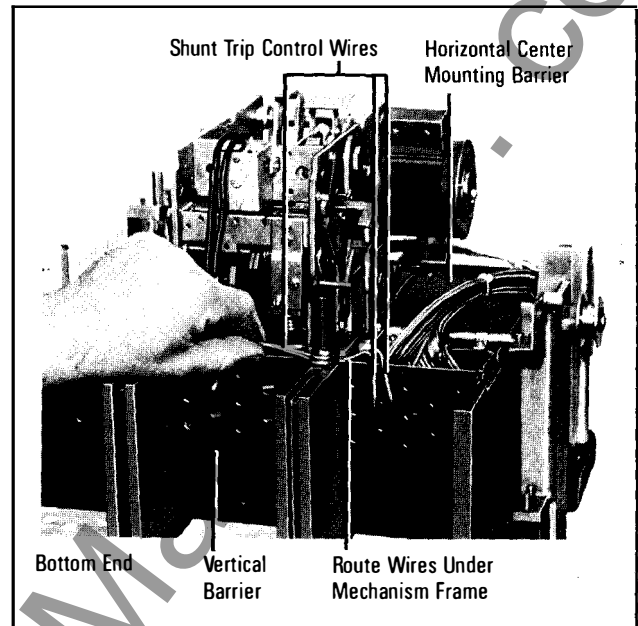
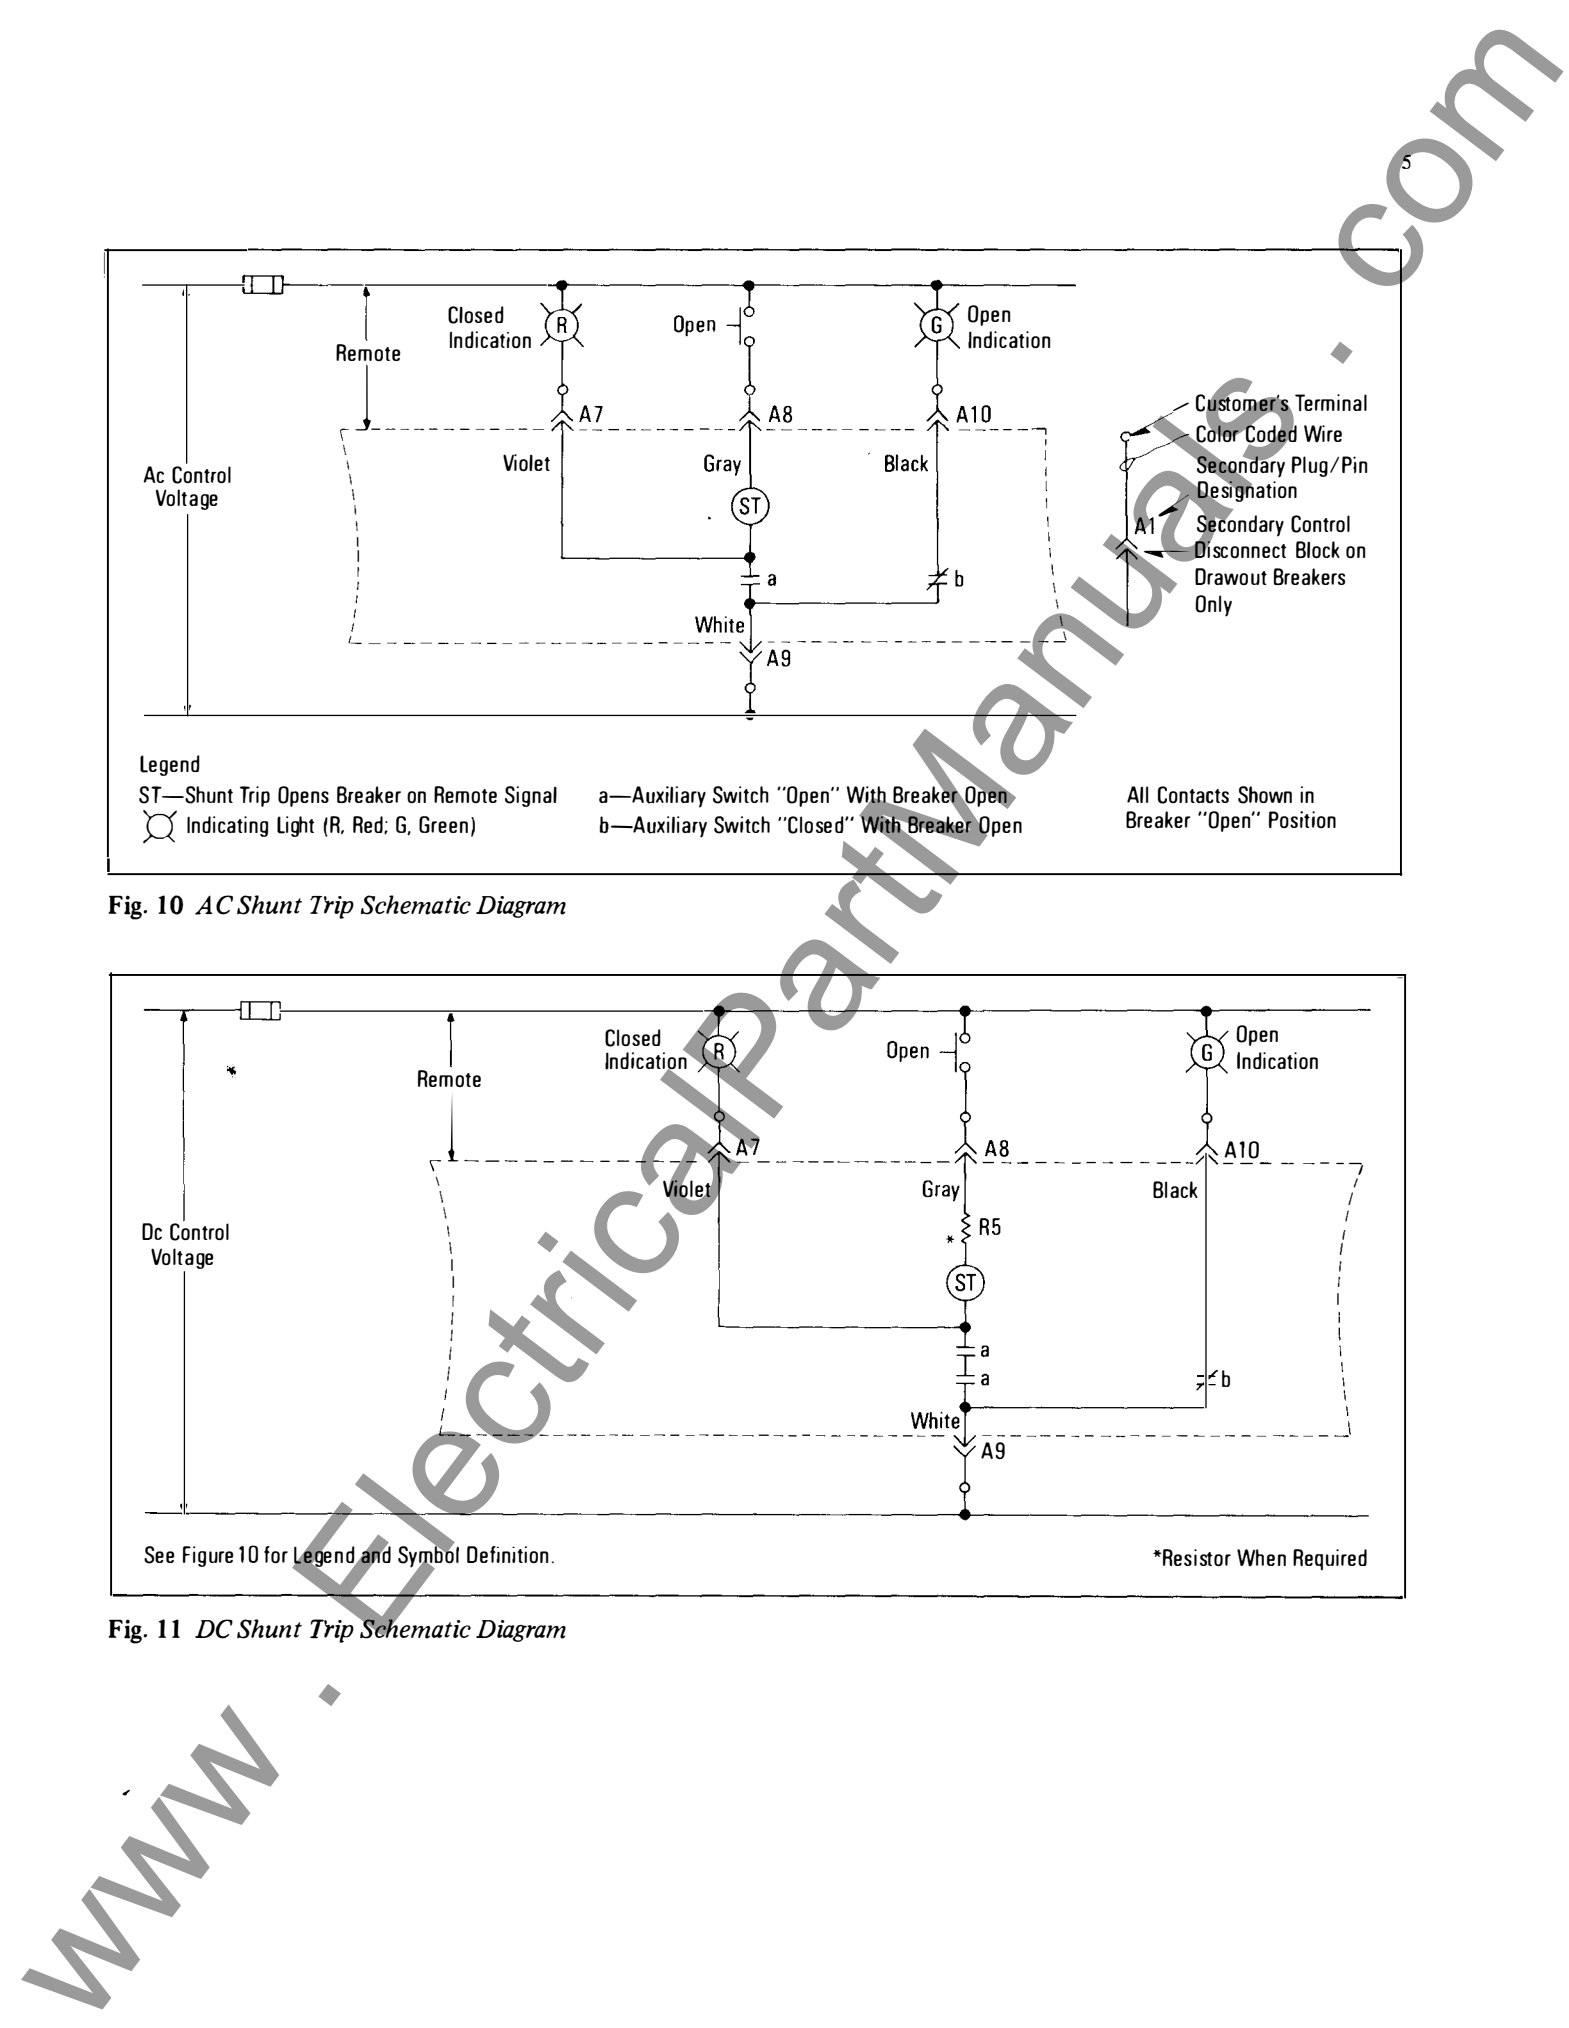

Fig. 5 *Routing Location for Shunt Trip Control Wires*
Fig. 11 *DC Shunt Trip Schematic Diagram*
4. Route the two shunt trip control wires under the mechanism mounting frame as illustrated in Fig. 5. This routing is required in frame ratings 1600^② amp and less because of the closeness of the front cover, but an alternate path around the bottom end of the mechanism frame may be used in the large frame breakers.
An AC shunt trip schematic diagram is provided in Fig. 10 and a DC diagram is provided in Fig. 11. The control wires should be routed and secured as illustrated in Figs. 5, 7, 8, and 9. Make sure that the control wires do not interfere with moving parts or the front cover when it is replaced.